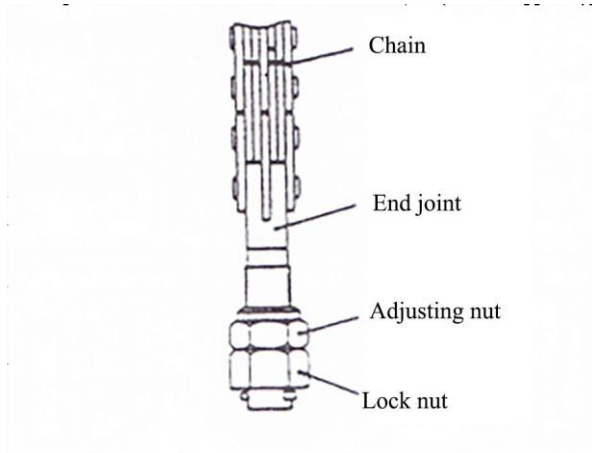

Fig. 6-6
(1) Put a pallet on the fork and park the forklift on flat ground.
(2) Make the forks and pallets fall to the ground.
(3) Remove the upper end joint of the chain and remove the chain from the sprocket as shown in Fig. 6.6.
(4) Lift the inner mast.
(5) After confirming that the carriage has been disengaged from the inner door frame, remove the carriage.
(6) Replacement of main roller: